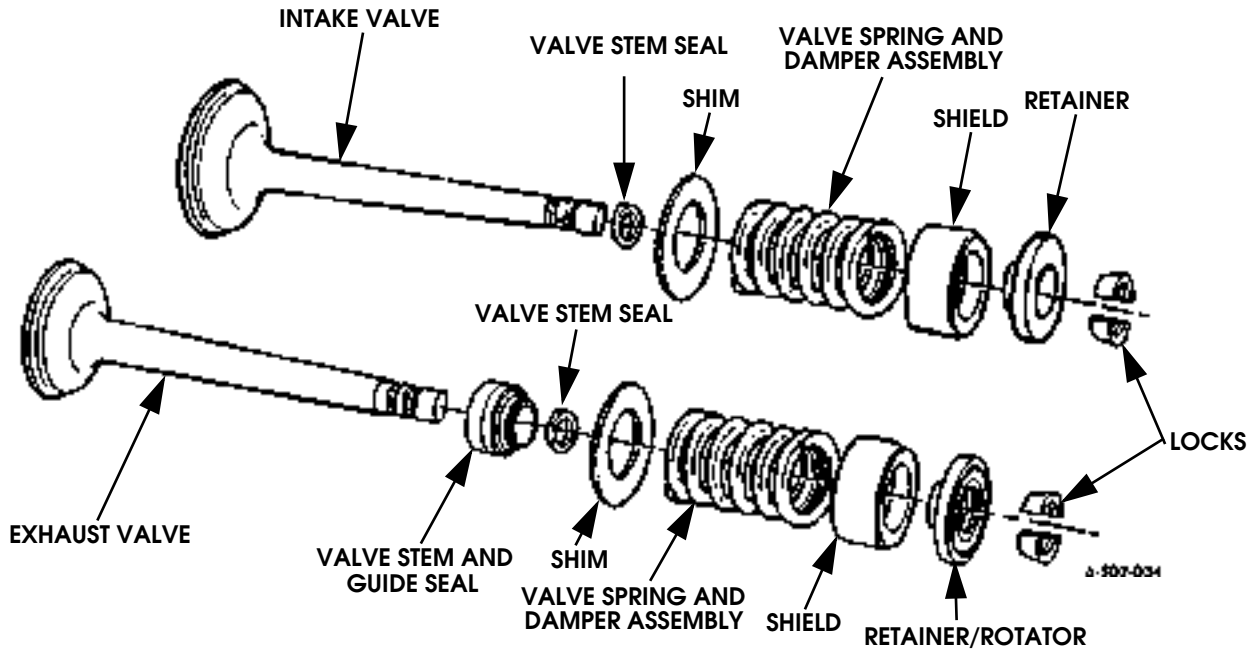

Figure 2-134: Intake and Exhaust Valve Components
- b. Remove valve locks (Figure 2-134).
- g. On exhaust valve, also remove nylon stem and guide seal (Figure 2-134).